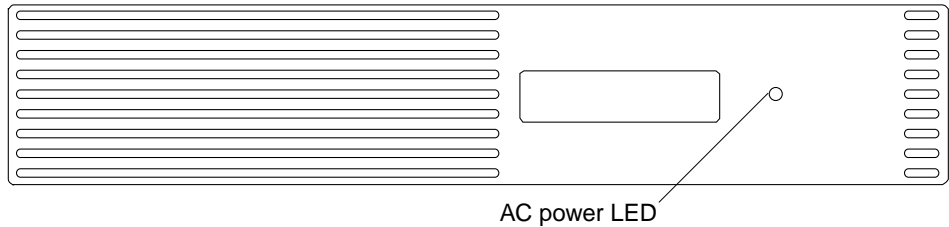
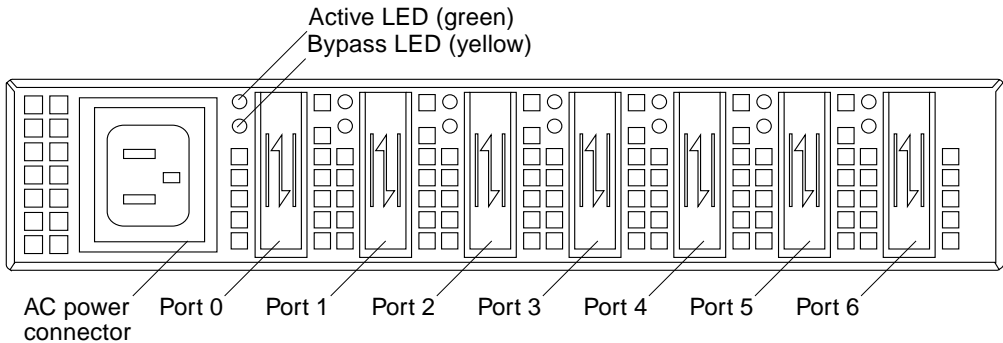

FIGURE 1-1 Front of Hub
FIGURE 1-2 Rear of Hub
The front and rear of the hub are shown in FIGURE 1-1 and FIGURE 1-2.
1. **Connect the female end of the power cord to the power receptacle at the rear of the hub (FIGURE 1-1 on page 1-2).**